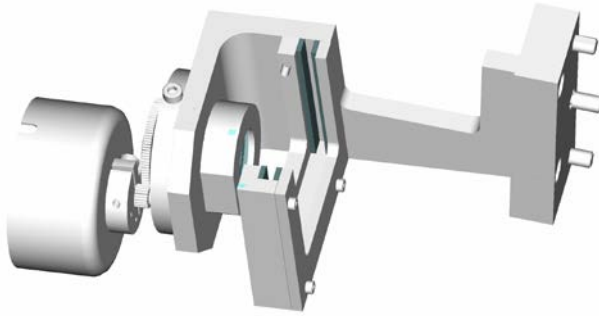

Figure 9-6
6. In order to provide a fine adjustment device, temporarily place the gear clamp (an integral part of the cover previously removed) over the smaller gear and tighten the clamp. This will allow the cover to be rotated in order to move the Iris in small increments for the final adjustment. See Figure 9-6 showing the cover and gear clamp temporarily installed.